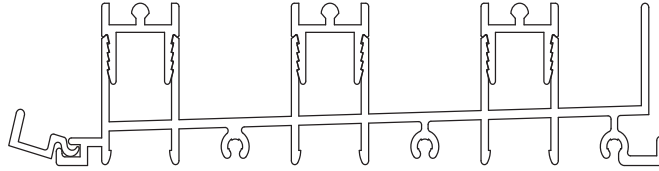

Figure 30
10. Attach the standard screen rail to the main frame by inserting the tail piece into the main frame sill accessory groove and rotate downward. (See Figure 30)